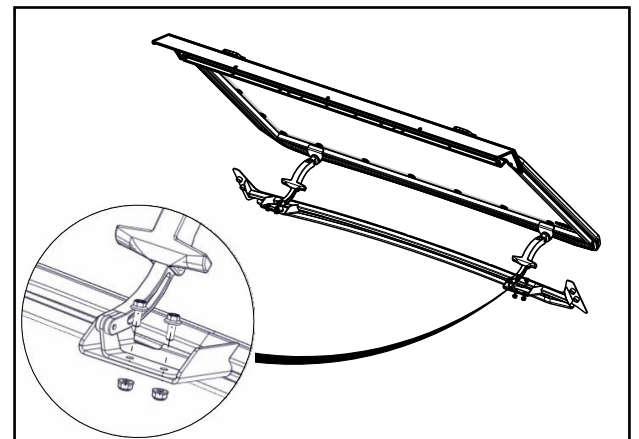

Fig. 10.4 Windshield latch fasteners
- 10.4** Per fig. 10.4, attach each latch bracket to the cowl with (2) 1/4-20 x 5/8" bolts and nuts and tighten.